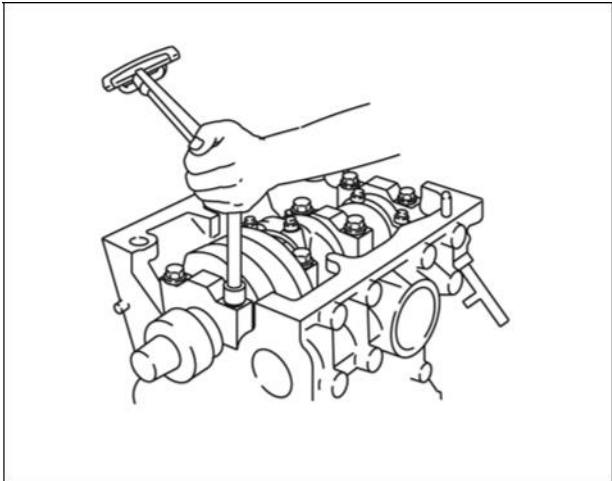

Figure 5
3. Assemble main bearing cap with bearing (Figure 5) and torque to values listed in Section 14 - Engine Specifications.